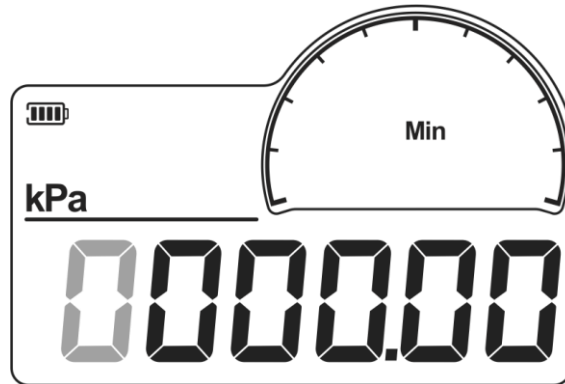

Figure 21 Lower limit calibration point
1. Display the lower limit calibration point, as shown in Figure 21, the identifier area displays Min to indicate the lower limit of calibration. The main display area displays the calibration point being edited, and the focus position will flash. Short press Right button to move the focus position, short press Down button to adjust the value, short press Enter button to confirm the current calibration point and go to lower limit display.